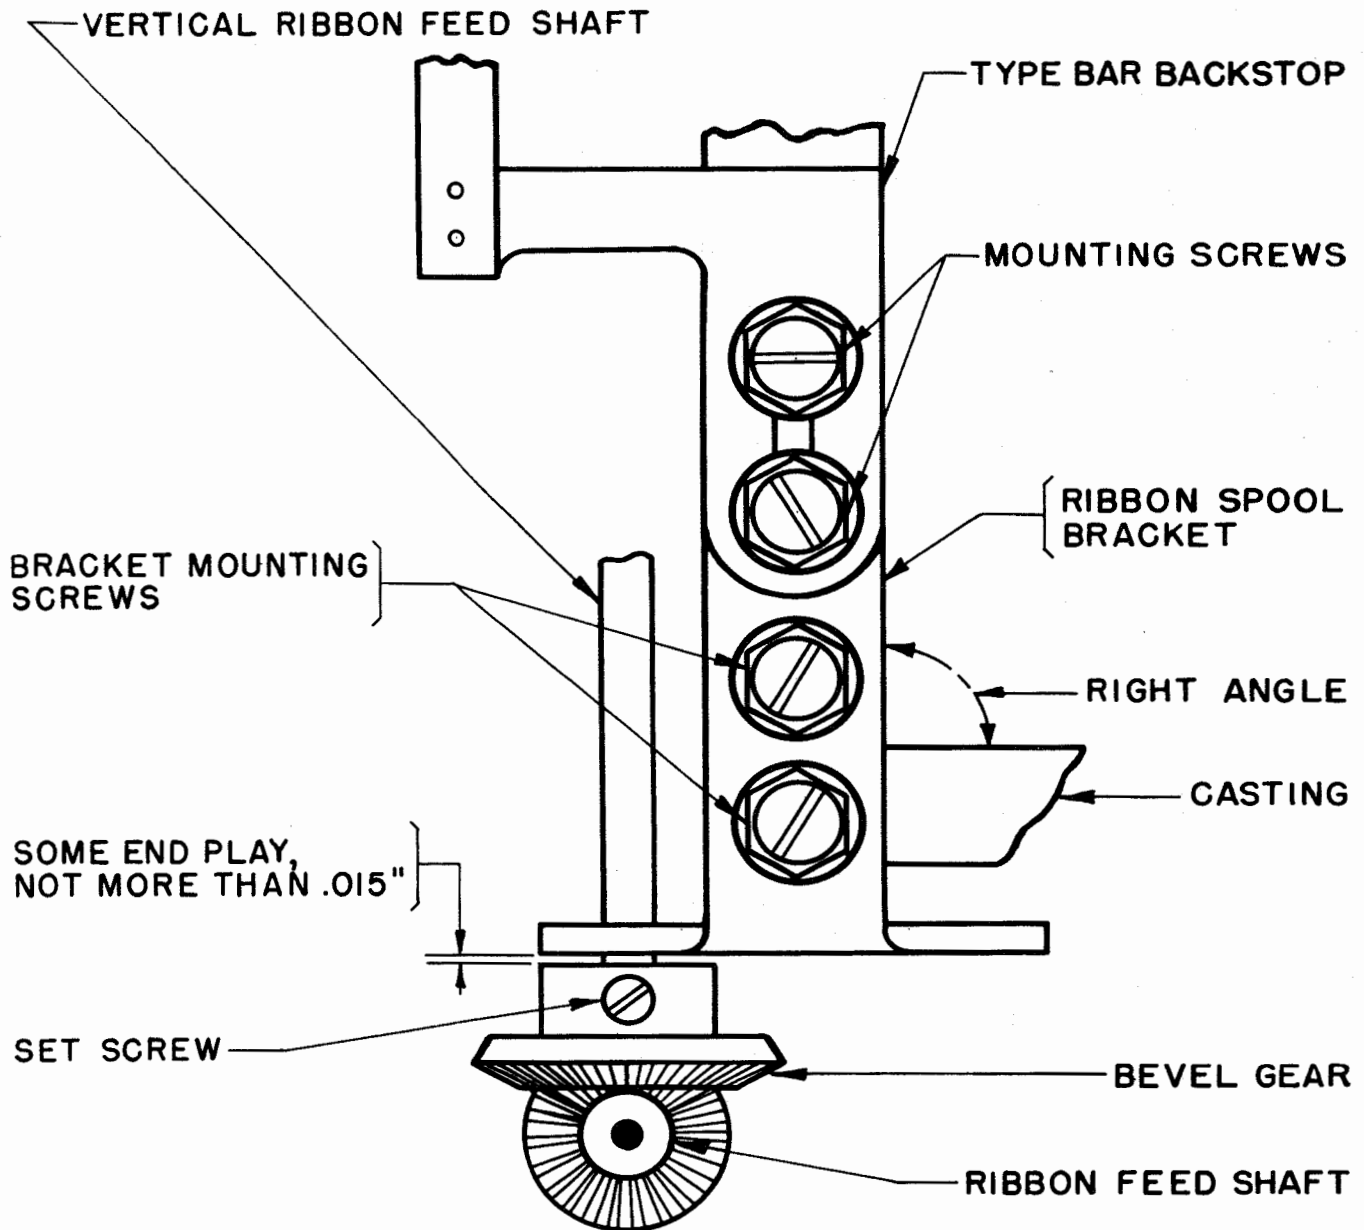

Figure 6
should be flush with the lower end of the shafts as gauged by eye. See Figure 6.
2.10 Vertical Ribbon-feed Shafts: The vertical ribbon-feed shafts should be vertical and should have endplay not to exceed 0.015 inch, gauged by eye and feel, when the bevel gears are in engagement with the associated ribbon-feed-shaft gear. See Figure 6.